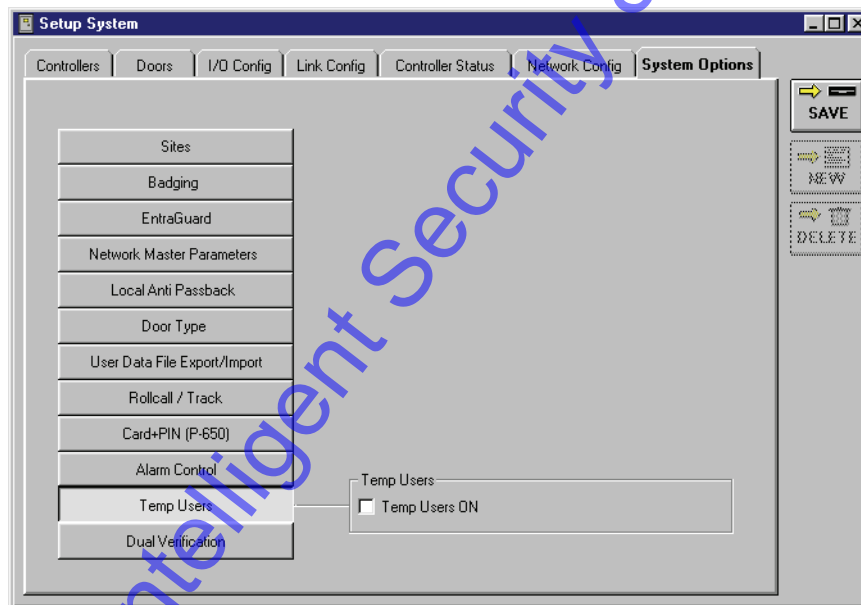

Figure 13-1. System Options Tab - Temp Users Disabled
The Temp Users ON check box is used to enable the temp users feature (see Figure 13-1). The temp users feature allows an operator to set activation and expiration dates for the future. Once that pre-assigned date and time is reached, the controllers will either allow entry (if a pre-set activation date and time was set) or deny entry (if a pre-set expiration date and time has been set).
- Click on the  button. The System Options window will reveal the field for enabling temp users (see Figure 13-1).
3. Click the  button. All the temp users related database fields are now removed and the system options window returns to its original state (see Figure 13-1 on page 3 of this section).